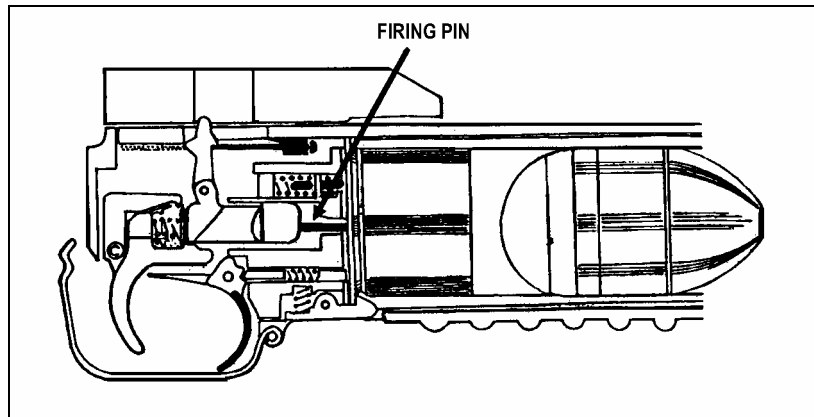

Figure 2-9. Firing the M203 grenade launcher.
h. **Firing.** When the grenadier pulls the trigger, the primary trigger sear disengages from the bottom sear surface of the firing pin. This releases the spring-driven firing pin, forcing it forward against the cartridge primer (Figure 2-9, page 2-6).